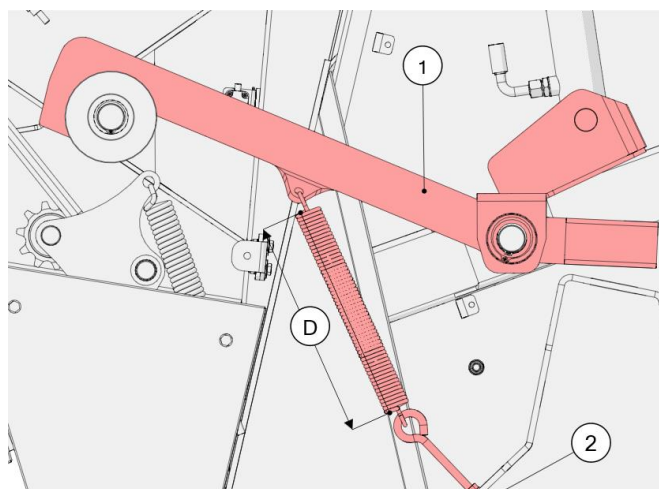

Figure 20. Lock adjustment
- As shown in Figure 20, adjust the lock (1) by turning the nut (2) so that the distance $D = 300 \text{ mm}$